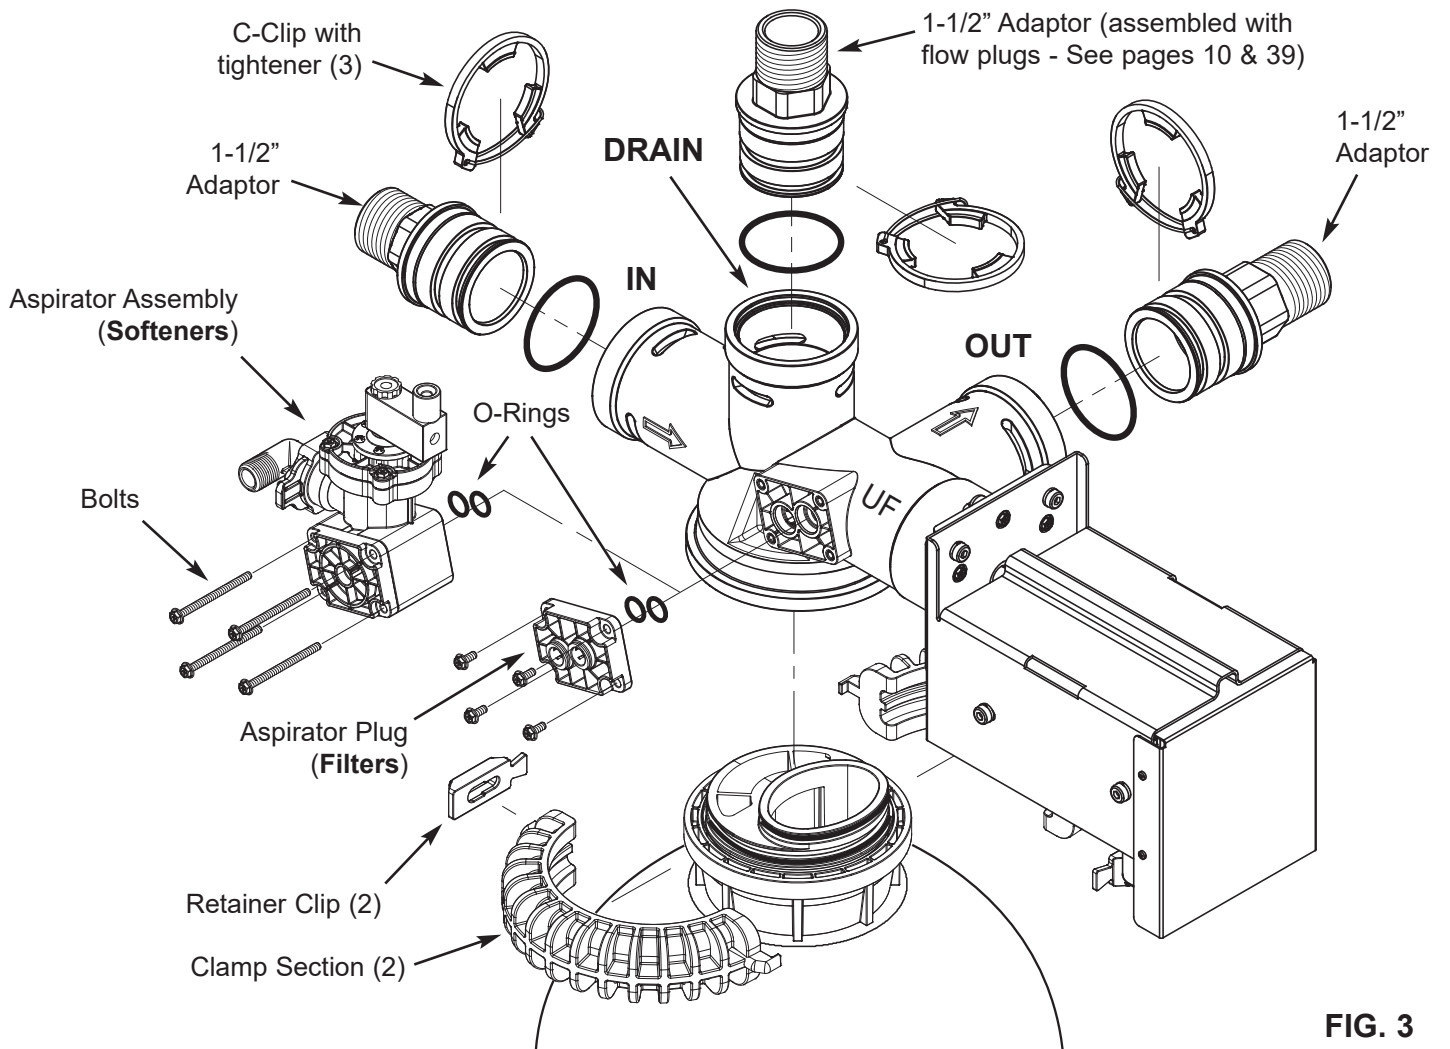

FIG. 3
**14.** Using 56.52 mm O.D. o-rings, c-clips and tighteners from the valve parts kit, install 1-1/2" threaded adaptors in the inlet and outlet valve ports (Figure 3). **Be sure the c-clips and tighteners are secured in place.**
**15. Softeners only:** Locate the 1-1/2" threaded adaptor in the **aspirator kit**. It is factory assembled with drain flow controls. Using 56.52 mm O.D. o-ring, c-clip and tightener, install it in the valve outlet port (Figure 3). **Be sure the clamps and retainers are secured in place.**
**16. Filters only:** Locate the 1-1/2" threaded adaptor in the **filter kit**. Assemble, as shown in the included instruction sheet (also on page 10), using the flow control components appropriate for the filter size and media. Using 56.52 mm O.D. o-ring, c-clip and tightener, install it in the valve outlet port (Figure 3). **Be sure the clamps and retainers are secured in place.**
**17. Softeners only:** The aspirator assembly contains the required components to control brine and rinse rates for **upflow** regeneration applications at medium water pressures (shaded rows in chart on page 10). If these conditions apply to this installation, do step a below. Refer to Figures 3 and 4, page 9.